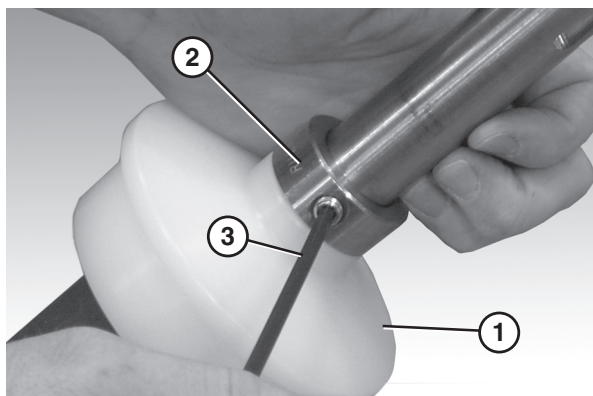

Figure 76
5. Slide the second flanged puck (**Figure 76, item 1**) and the retaining ring (**Figure 76, item 2**) onto the drive spindle.
6. Tighten the retainer ring fastener using a hex wrench (**Figure 76, item 3**).